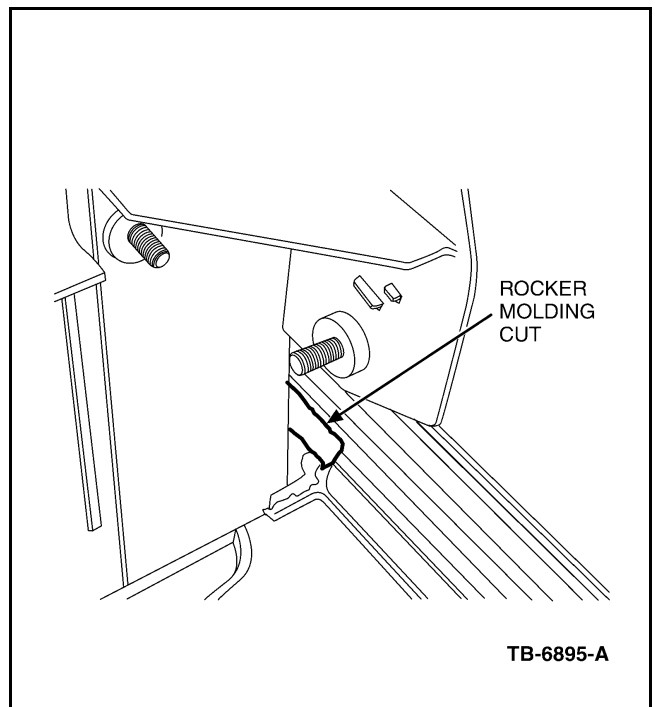

Figure 3 - Article 03-2-1
11. Cut upper rocker molding approximately 1 inch back from the right passenger side seat stanchion and 1/2 inch from the inner edge, see Figure 3.